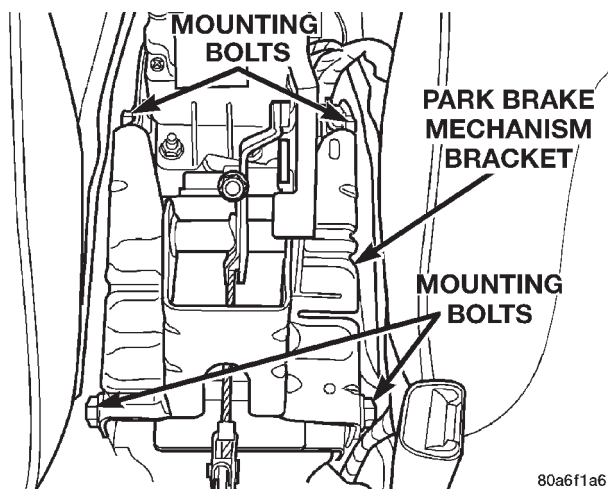

Fig. 130 Park Brake Lever Bracket Mounting
(13) Remove the 4 bolts (Fig. 130) attaching the park brake mechanism bracket.
(1) Place the park brake mechanism on the console bracket. Install the 4 bolts (Fig. 130) mounting the park brake mechanism to the console bracket. Tighten the 4 mounting bolts to a torque of 28 N·m (250 in. lbs.).